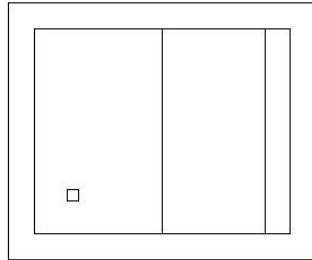

FIGURE 2.17: Offsetting the second line of the opening
5. Click the new line, and then pick a point to the left. Press \downarrow to end the Offset command (see Figure 2.17).